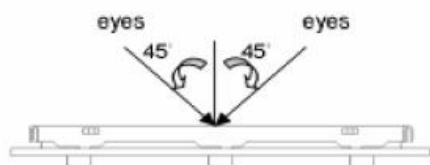

Fig.1
(3). The test direction is base on about around 45° of vertical line. (Fig. 1)